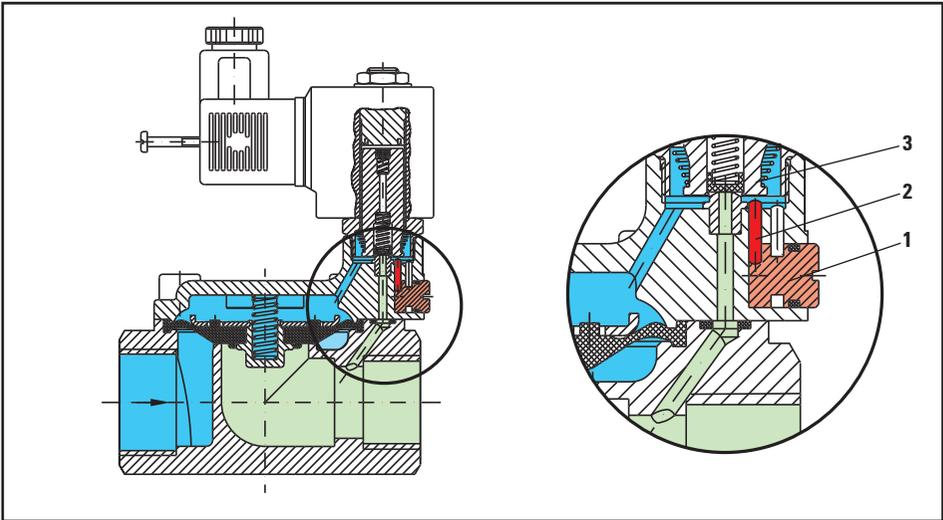

Fig. 4.7 - Description of function: manual operation - servo-assisted solenoid valve
At servo-assisted or direct acting valves the plunger (3) will be lift up by a pin (2) which will be moved by turning a eccentric screw (1), therefore the pilot drilling will be open. (see Fig.4.7)